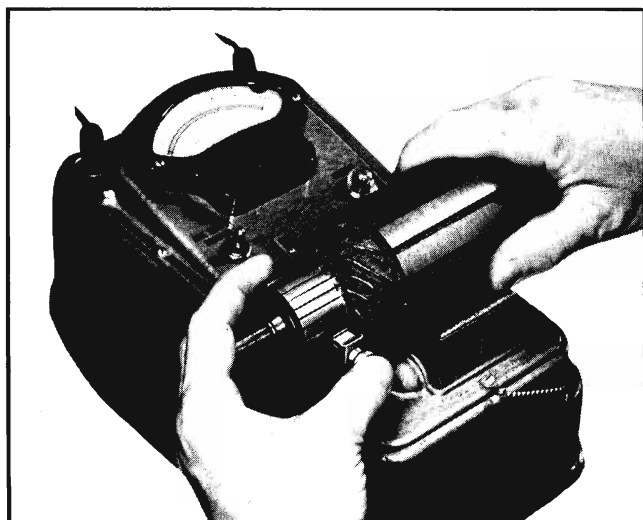

Fig. 11-20 Bar to Bar Test for Open Armature
b. Check armature for open circuit by making bar-to-bar check as shown in Fig. 11-20. Inconsistent variation in readings indicates an open armature.